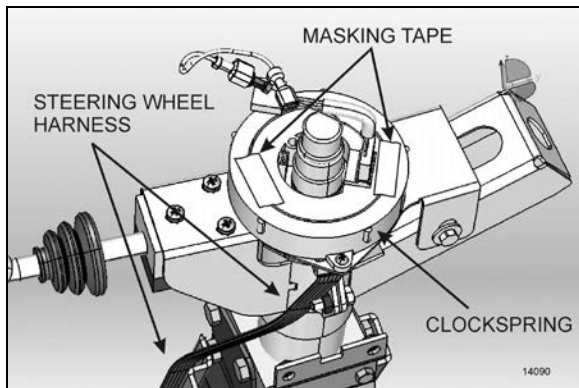

FIGURE 13: LOCKING THE CLOCKSPRING IN PLACE
7. Once the steering wheel is removed, it is important to block any rotating movement of the clockspring in order to prevent it from losing its neutral position. Use two pieces of masking tape to lock it in place (Figure 13).